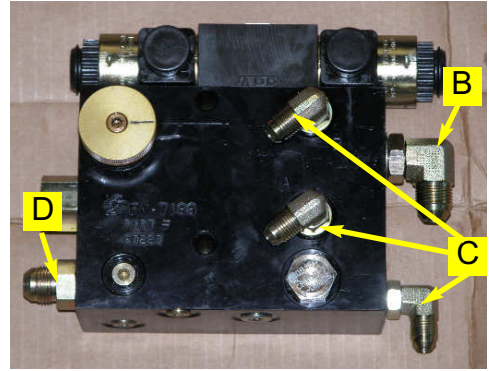

Figure 1. Prepared Automated Steering Block.
- b. Install the large elbow adapter (**B**) in the EF port and the small elbow adapters (**C**) in the A, B, and T ports of the Automated Steering Block. (Figure 1.)
- c. Install the straight adapter fitting (**D**) into the P port of the Automated Steering Block. (Figure 1.)